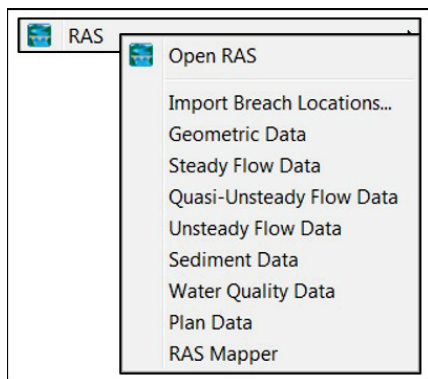
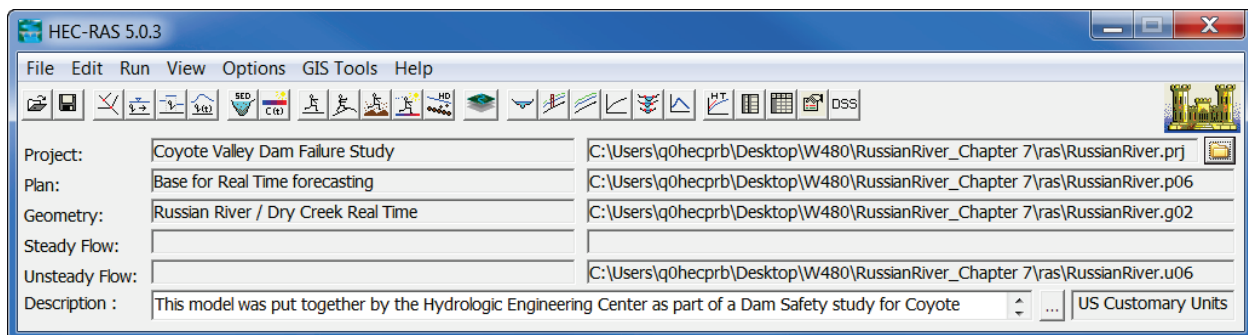

Figure L.35 Edit Menu – RAS
Figure L.36 HEC-RAS Main Window
From the HEC-WAT main window (Figure L.1), from the **Edit** menu, point to **RAS** (Figure L.35), click **Open RAS**. The HEC-RAS software application will open and the HEC-RAS main window will display (Figure L.36). The user can modify existing HEC-RAS model components or create new HEC-RAS model components, once the user is finished and data has been saved, the HEC-RAS model information is stored in the HEC-WAT study directory, under the *ras* folder. The rest of this section provides an overview of the HEC-RAS editors that are directly available from the HEC-WAT framework.
1. From the HEC-WAT main window, from the **Edit** menu (Figure L.35), point to **RAS**, click **Geometric Data**.
1. From the WAT main window, from the **Edit** menu (Figure L.35), point to **RAS**, click **Steady Flow Data**.
- From the WAT main window, from the **Edit** menu (Figure L.35), point to **RAS**, click **Quasi-Unsteady Flow Data**.
- From the HEC-WAT main window, from the **Edit** menu (Figure L.35), point to **RAS**, click **Unsteady Flow Data**.
- From the HEC-WAT main window, from the **Edit** menu (Figure L.35), point to **RAS**, click **Sediment Data**.
1. From the WAT main window, from the **Edit** menu (Figure L.35), point to **RAS**, click **Water Quality Data**.
1. From the WAT main window, from the **Edit** menu (Figure L.35), point to **RAS**, click **Plan Data**.
1. From the WAT main window, from the **Edit** menu (Figure L.35), point to **RAS**, click **RAS Mapper**.